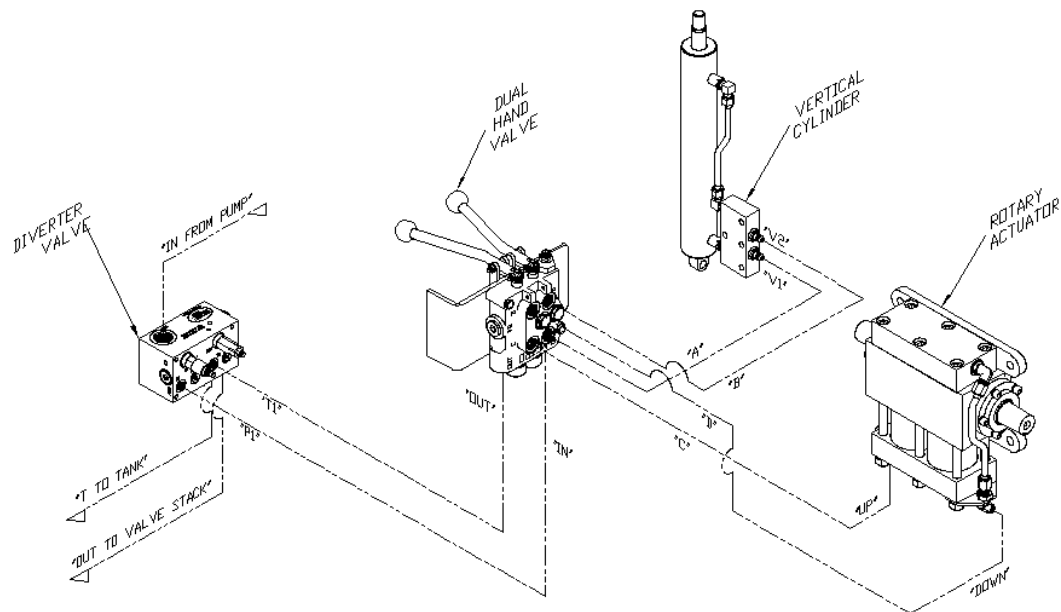

figure I-3
Before attempting any hydraulic connections, turn the truck's engine off and release all hydraulic pressure from the system. Refer to the hydraulic layout (figure I-3) and hydraulic schematic (Appendix A) while performing the following steps. Always clean & lubricate fitting threads before installation.
11. Install the 3000 psi hydraulic pressure gauge with the necessary adapter in the hydraulic line connected to the “IN” port of the hand valve as shown in figure I-3.